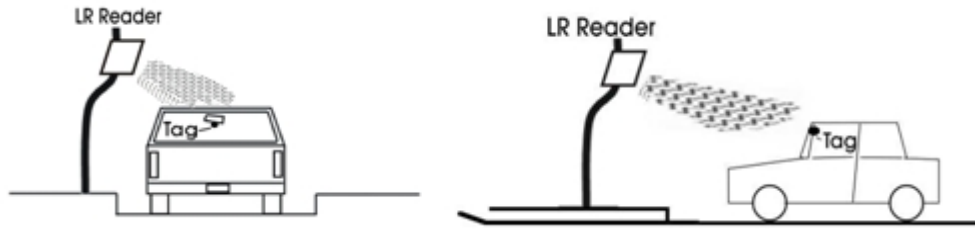
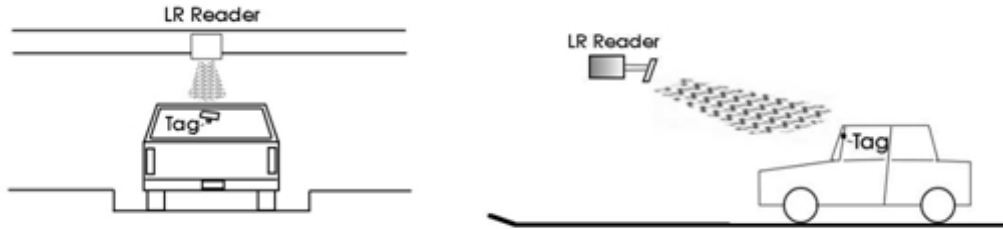

Figure 4 Passenger vehicles -- reader beside lane
Figure 5 Passenger vehicles -- reader above lane
1. Mount the reader so that it faces the WS-UHF tag at the "sweet spot" reading location. See Figures 4 and 5 for typical uses.
If the reader is *beside the lane*, mount the reader as close to the edge of the lane as possible without damage to the reader. Choose the left side of the lane when possible, because this side is easier for the driver (in right-lane-driving countries) to judge the vehicle's location relative to the left edge of the lane. Mount the reader on an adjustable bracket at a height of about 7 feet (for small cars, 6 feet may suffice). Attach or hold a UHF card or tag on the same side of the vehicle as the reader. Aim the reader at the tags when they are at the "sweet spot" – about 10 to 15 feet direct measurement from reader to tag as the vehicle approaches the reader. See Figure 4.
If the reader is *centered above the lane*, as inside a parking structure, mount the reader on an adjustable bracket at the lowest height that assures safe clearance between the reader and the highest vehicle. Hook a HT-UHF Hangtag over the inside rear-view mirror's stem, or attach an RV-UHF tag to the back of the mirror facing the reader, or adhere a WS-UHF Windshield Tag to the upper center of the windshield, behind the mirror, several inches below the top of the windshield. Aim the reader at the tags when they are at the "sweet spot". See Figure 5
This application is a variation of Section 8.2. The reader beside the lane should be at about 7 feet height; the reader above the lane must be raised to clear the higher vehicles. Mount the tags and cards in small vehicles (sports cars) higher than in larger vehicles (SUVs). This places the tags and cards for all vehicles at about the same position relative to the reader. See Figure 4 and Figure 5.
Follow the general suggestions for vehicles in Sections 8.2 and 8.3, regarding the location of the reader mounting (beside the vehicle lane or over the center of the lane). Select the UHF card or tag that performs best in the combination of vehicle lanes, vehicle types, reader locations, and credentials characteristics. See Figure 4 and Figure 5.